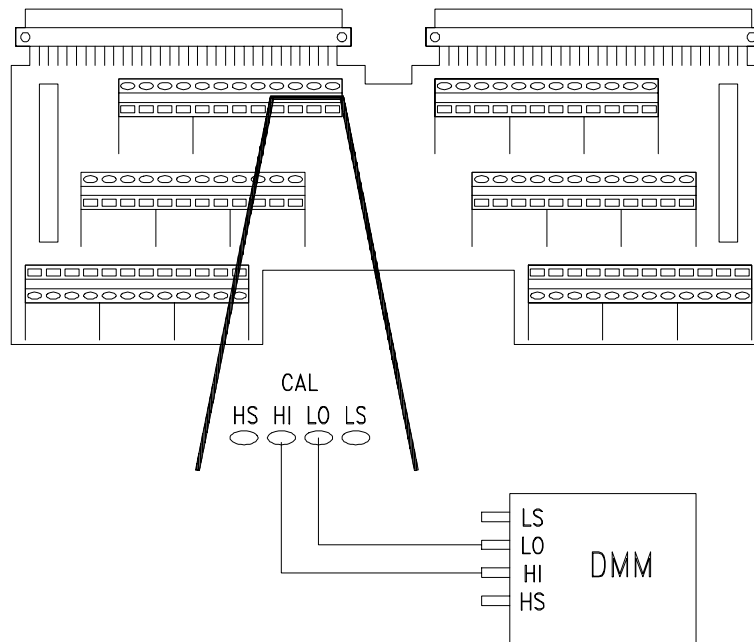

Figure D-2. Voltage Calibration Connections (CAL)
1. Make the connections shown in Figure D-2 or D-3.